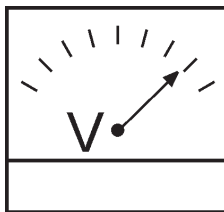

Figure 46. AC-voltmeter
- The generator's AC-voltmeter (Figure 46) will display the generator's output in **VOLTS**.